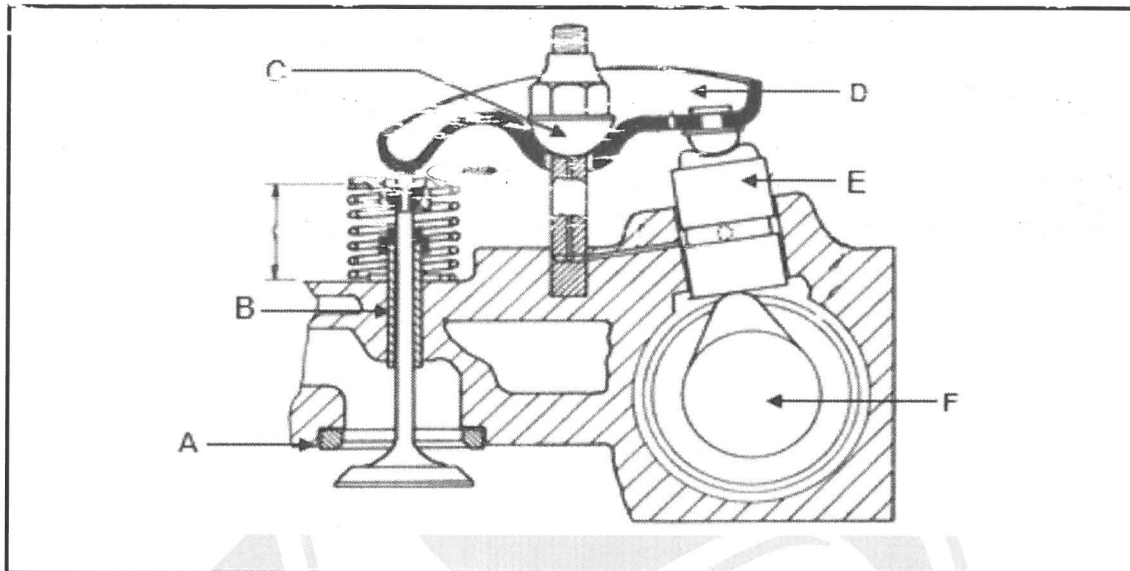

FIGURE 3
5.1 FIGURE 3 below shows a sectional view of a valve assembly.
- 5.1.2 Name the valve assembly in FIGURE 3. (1)
- 5.1.3 Give FIVE advantages of the valve assembly in FIGURE 3. (5)